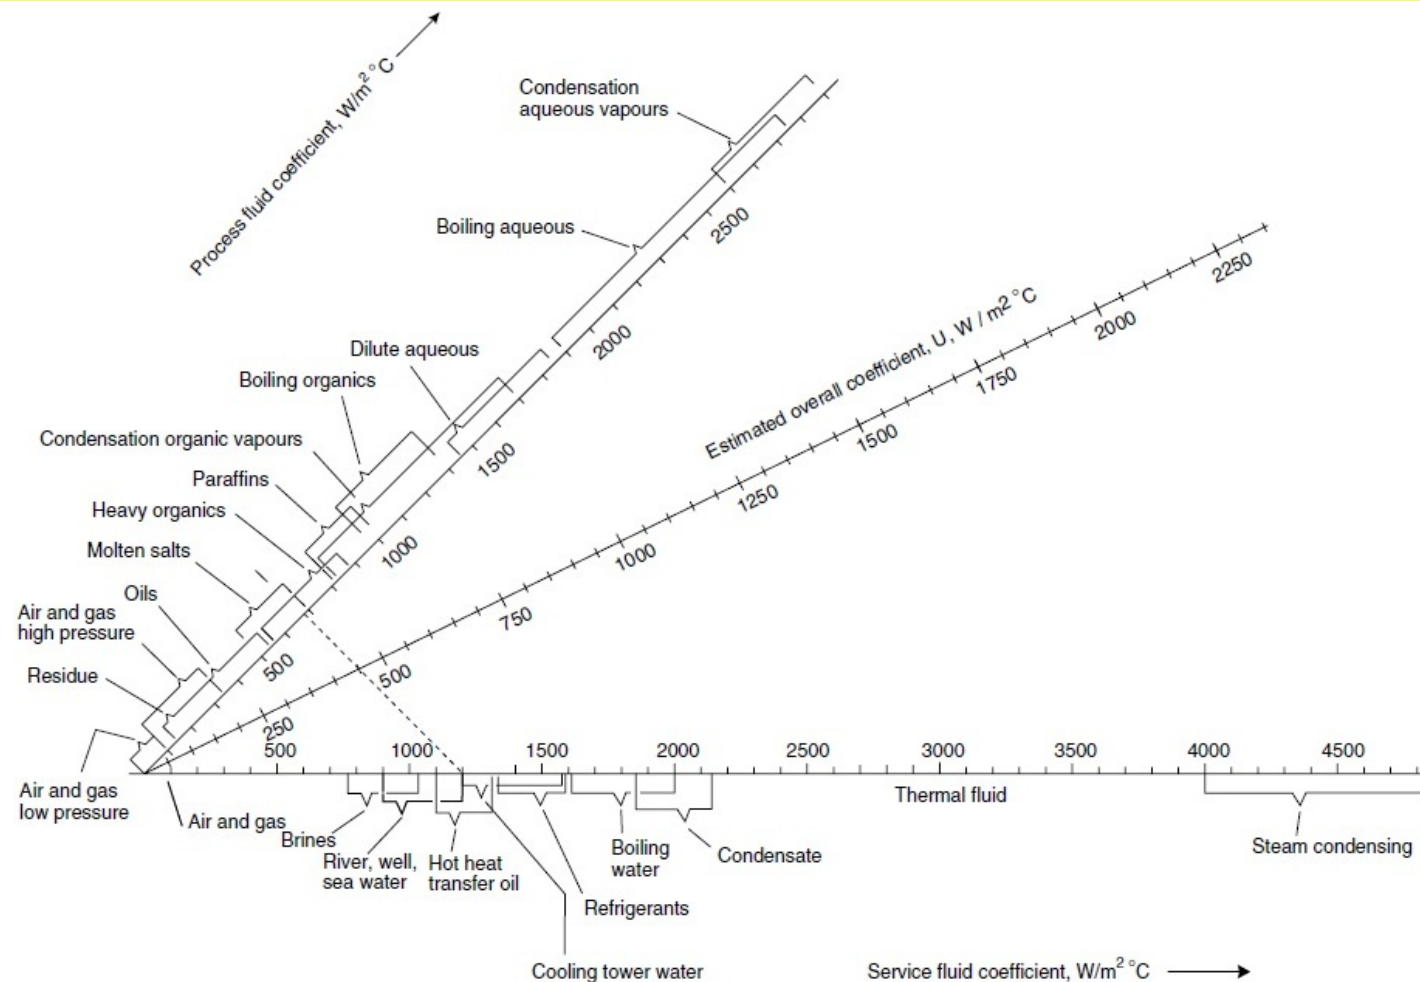

Fig. 5: Overall coefficients (join process side duty to service side and read U from centre scale)
- Fig. 5 can be used to estimate the overall coefficient for tubular exchangers (shell and tube).
- The film coefficients given in Fig. 5 include an allowance for fouling.
- The values given in Table 1 and Fig. 5 can be used for the preliminary sizing of equipment for process evaluation, and as trial values for starting a detailed thermal design.
➤ From Table 2 or Fig. 5: $U=600 \text{ W/m}^2\text{°C}$